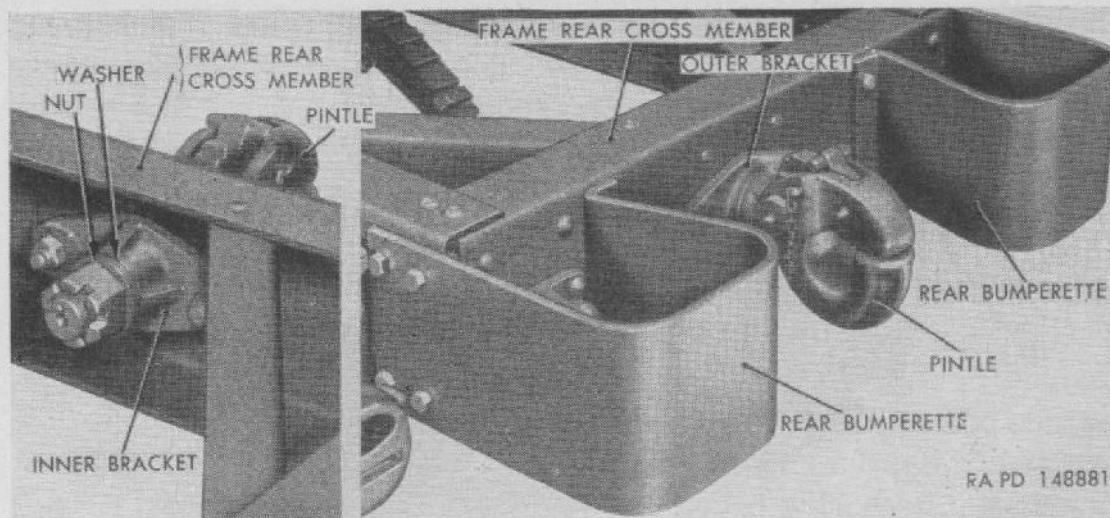

Figure 160. Pintle and rear bumperette installation.
b. REAR BUMPERS. Two rear bumperettes are formed from pressed steel and are attached to each rear corner of frame (fig. 160).
- (1) *Rear bumper removal.* Remove six bolts and nuts attaching each bumper to frame side rail and rear crossmember; then remove bumper.
- (2) *Rear bumper installation.* Position rear bumper against frame side rail and rear crossmember with bolt holes in alinement. Install six bolts and nuts. Tighten nuts to 48-64 pound-feet torque.
a. GENERAL. Pintle is installed at center of frame rear crossmember (fig. 160). Instructions necessary for operation of pintle are covered in paragraph 43c.